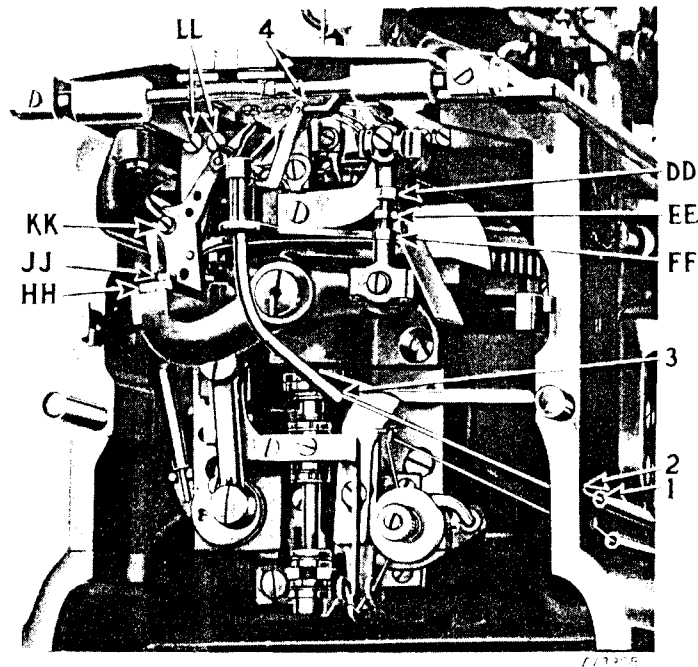
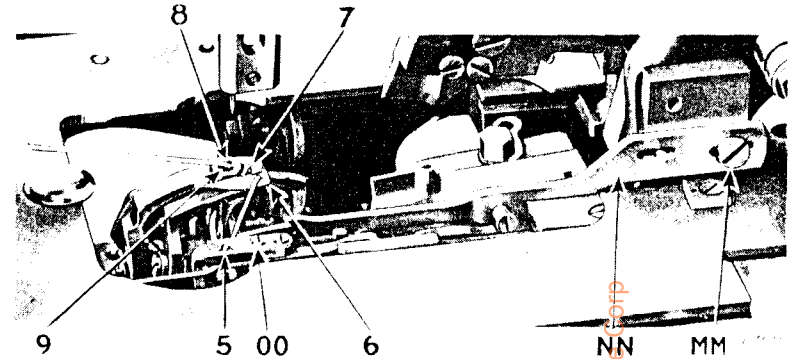
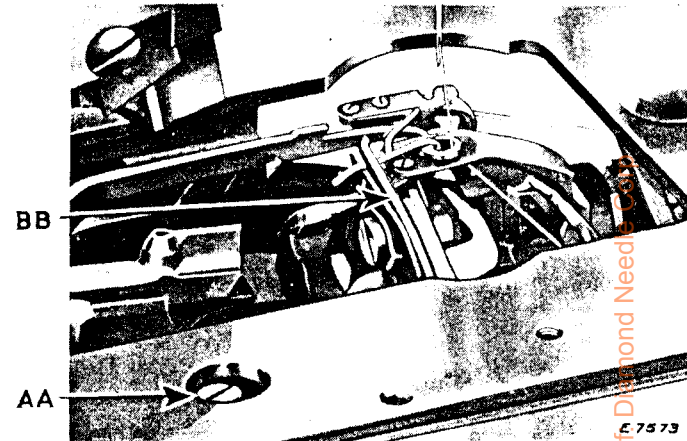

Fig. 39. Threading the Cord
Fig. 40. Threading the Cord
Fig. 43. View of Machine, Showing Under Thread and Cord Trimmer
(See Figs. 39 and 40)
upper brass tube (1, Fig. 39) which is attached to the right side of the machine (using the threading wire furnished for the
purpose), then pass the cord through the upper hole (2, Fig. 39) in the right hand side of the bed of the machine, upwardly through
the cord tube (3, Fig. 39) (using the threading wire furnished for the purpose), then pass the cord through the hole (4, Fig. 39) in the end of the cord leader, up through the hole (5, Fig. 40) in the cord guide and under the tension spring which is attached to the guide, down through the right hand hole (6, Fig. 40) in the throat plate, up through the hole (7, Fig. 40) in the throat plate and under the throat plate tension spring, toward you through the hole (8, Fig. 40) near the center of the throat plate, the cord leading toward you through the large needle hole (9, Fig. 40) in the throat plate, as shown above. Then swing the work clamp plates back into place and hook the springs at the rear of the plates to hold the plates in position.
To increase the tension on the cord, turn the screw (00, Fig. 40) downwardly. To decrease the tension on the cord, turn the screw (00) upwardly.
After the trimming of the cord, the buttonhole cutting mechanism moves forward to a cutting position, and at the same time actuates the cord pull-off (NN, Fig. 40), causing it to pull the cord back through the horizontal cord hole (8, Fig. 40) in the throat plate.
The cord pull-off (NN) should draw off just enough cord to permit the cut end to extend through the horizontal hole (8, Fig. 40) in the throat plate to the opposite side of the needle opening (9, Fig. 40). This will leave sufficient cord with which to commence the sewing of the next buttonhole.
To adjust the cord pull-off (NN) to pull more or less cord, loosen the screw (MM, Fig. 40) and move the cord pull-off (NN) forward or backward on the buttonhole cutting lever bracket, as required, then securely tighten the screw (MM).
When the under thread and cord trimmer blades are cutting the threads, the upper or stationary blade (BB, Fig. 43) should pass
sufficiently close to the material to gather in both threads and cord lying between the last stitch of the buttonhole and the throat plate and as close as possible to the last stitch to ensure close trimming. To adjust the under thread trimmer, loosen the screw (JJ, Fig. 39), and slide the bracket (HH, Fig. 39) in or out, as required, then securely tighten the screw (JJ). After making this adjustment, see that the stud in the heel of the movable knife projects the full depth through the slot of the movable knife operating cam. If it does not, loosen the screw (AA, Fig. 43) and slide the knife operating cam in or out as required, then securely tighten the screw (AA).
The thread trimmer blades should be adjusted so that when they close, the cutting edges fully pass each other to ensure severing the threads and cord. To make this adjustment, loosen the two screws (LL, Fig. 39) and swing the cam downwardly to cause the trimmer blades to close more, or upwardly to close less, then securely tighten the two screws (LL).
To adjust the trimmer to move further forward across the path of the threads and cord, loosen the two nuts (DD and FF, Fig. 39) and turn the adjusting screw (EE, Fig. 39) to the right. To adjust the trimmer to move further backward, away from the path of the threads and cord, turn the adjusting screw (EE) to the left. Care must be taken to see that the thread trimmer blades are not thrown so far forward as to cause the stud in the heel of the movable knife to strike the end of the slot in the knife operating cam. Then securely tighten the two nuts (DD and FF).
When replacing the stationary blade (BB, Fig. 43), lower the clamps on the work plates without material under the clamps, then set the blade (BB) so that when it is at the end of its forward stroke, the top surface of its point will enter the clearance cut on the underside of the clamp check and pass as close as possible to the clamp check without coming into contact with it. To obtain the proper clearance between the stationary blade (BB) and the underside of the clamp check, loosen the screw (KK, Fig. 39) and move the blade, as required, then securely tighten the screw (KK).